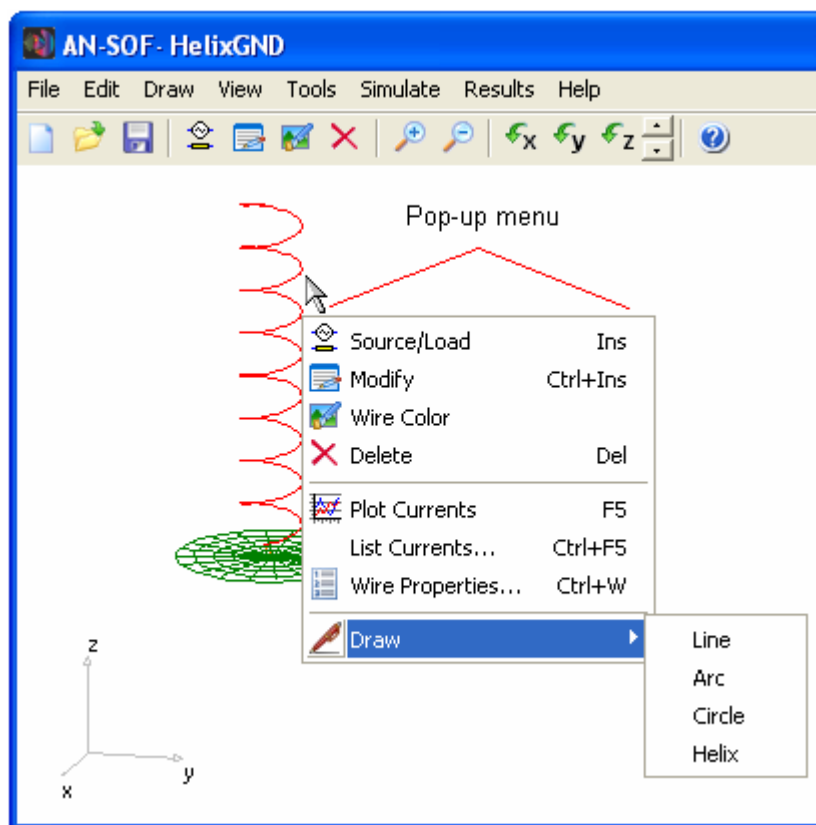

Fig. 6.1: Pop-up menu displayed when a wire is selected by clicking the right mouse button on it.
2. By clicking the right mouse button on it. In this case, a pop-up menu will be shown, Fig. 6.1.
Clicking the right mouse button on a wire shows a pop-up menu, Fig. 6.1. Choosing the Modify command from the pop-up menu shows the Modify dialog box, where the geometrical parameters and attributes of the selected wire can be modified.
Clicking the right mouse button on a wire shows a pop-up menu, Fig. 6.1. Choosing the Delete command from the pop-up menu deletes the selected wire with all sources and loads placed on it.
Clicking the right mouse button on a wire shows a pop-up menu, Fig. 6.1. Choosing the Wire Color command from the pop-up menu displays a Windows® dialog box for changing the color of the selected wire. This command is enabled when a wire is selected.